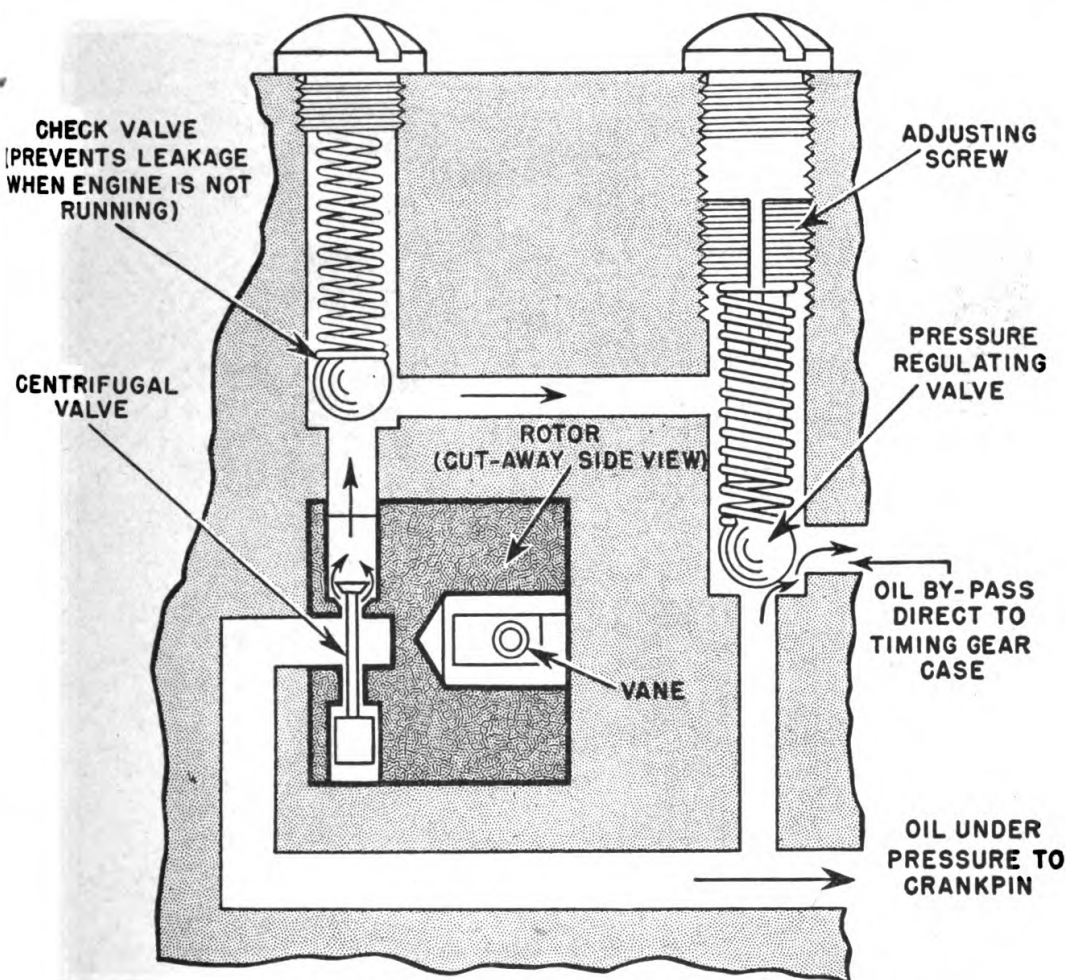

FIGURE 69.—Centrifugal valve in feed pump rotor for regulating oil pressure.
h. On recent military motorcycles using a vane-type feed pump, a centrifugal valve (fig. 69) has been built into the rotor of the pump. At low and intermediate speeds, this valve remains open, by passing oil to the pressure regulated valve leading to the timing gears. Thus the oil pressure on the crankpin is limited at low speeds. The centrifugal valve closes tighter at higher speeds, gradually increasing the oil pressure to the limit for which the pressure regulating valve